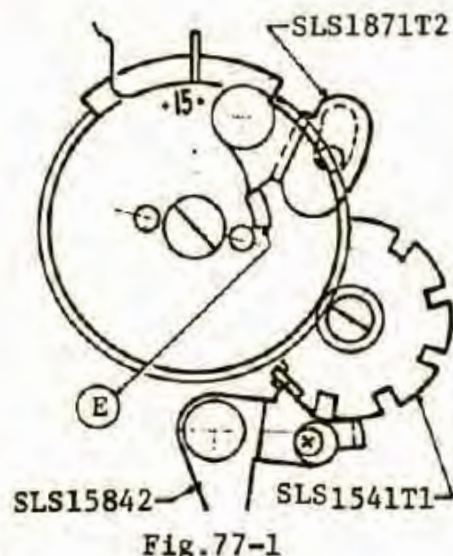

Fig. 77-1
When winding the film advance lever more after the fixed number of exposures have been taken (15), turn of the exposure counter is stopped because the (E)-protrusion on back of SLS15521 Film counter base strikes against the SLS1571T2 Change-over lever as shown in Fig. 77-1.
Above means that the end (B) of SLS15842 Stop lever is on the top of the dividing device and can not get into its groove as shown in Fig. 77-1 and 77-2.
4) (1)-Friction gear that conveys rotation of the friction wheel engages with (2) SLS-1531S1 Film counter gear No. 1.